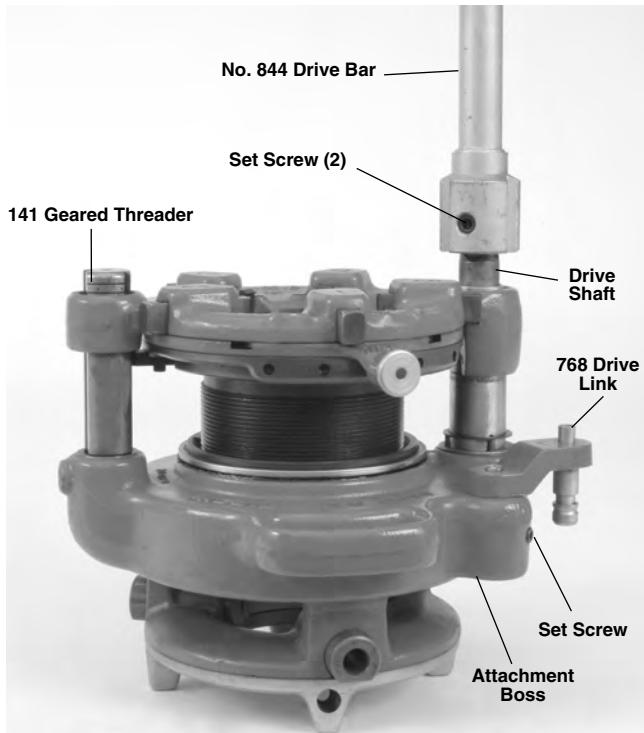

Figure 15 – 844 Drive Bar and 768 Drive Link Installed
8. With the drive shaft of the geared threader up, attach the 844 Drive Bar and securely tighten the two set-screws to retain in place (See *Figure 15*). For 535A machine, do not attach drive bar at this time.
- Loosen setscrew in geared threader attachment boss. Install the 768 Drive Link into boss and tighten setscrew to retain (Figure 15). Do not over tighten – the drive link should rotate freely.